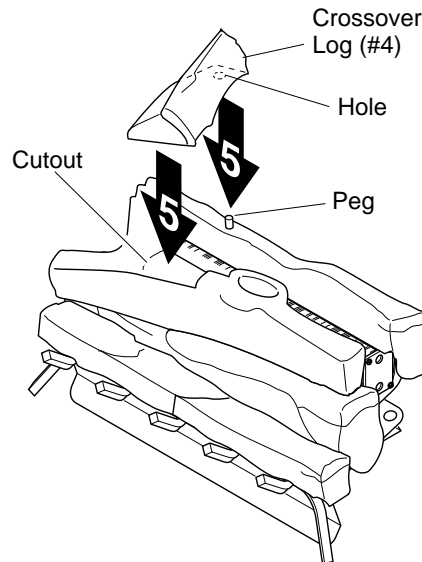

Figure 27 - Installing Crossover Log (#5)
4. Place the crossover log (#5) on the back log and the top middle log. Make sure the peg on the rear log is in the hole in the bottom of the crossover log. The crossover log should fit in the cutout of the top middle log (see Figure 27).